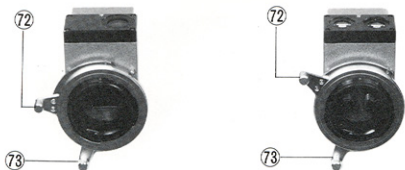

Fig. 54
- 73 Attachment fixing lever (See Fig.54)